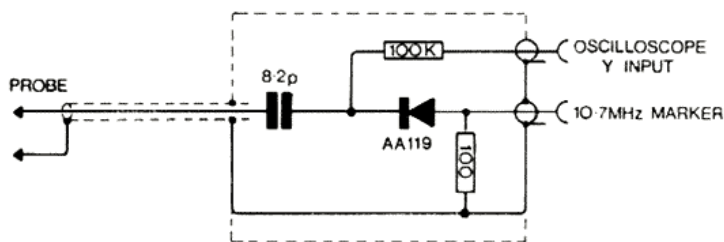

Fig. 1 Suggested Circuit of Detector Probe
- 6 Detector probe (a suitable circuit is shown in fig. 1).